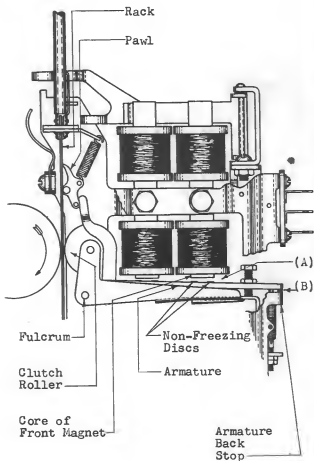

Fig. 10 - Downdrive Armature in Normal Position (Earlier Type Pawl)
- 2.15 Unoperated Core Gap - Fig. 10 (A): With the armature in its normal position, the gap between the top of the non-freezing disc on the armature farthest from the fulcrum and the core of the corresponding coil shall be
- 2.20 Pawl Engagement - Fig. 10 (E): The pawl shall engage the rack sufficiently to prevent the rack from slipping or dropping for any position the rack may assume when a .020" thickness gauge is placed between the back stop and armature. Use the No. 80B gauge.